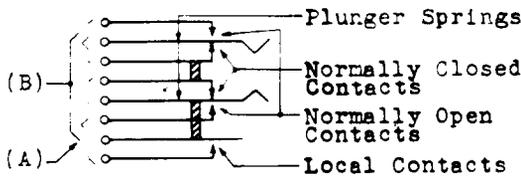

Fig. 4
(a) Normal Contact Sequence - Break-Make Combinations - Fig. 4 (A) - Unless otherwise specified the normally closed contacts operated directly by a plunger spring of an individual spring assembly shall break before the normally open contacts of the same spring assembly directly associated with the plunger spring make by
(b) Cross Sequence Break-Make Spring Combinations on Ringing Spring Assemblies - Fig. 4 (B) - Unless otherwise specified all normally closed contacts operated by the throw of the lever shall break before any of the normally open contacts make by